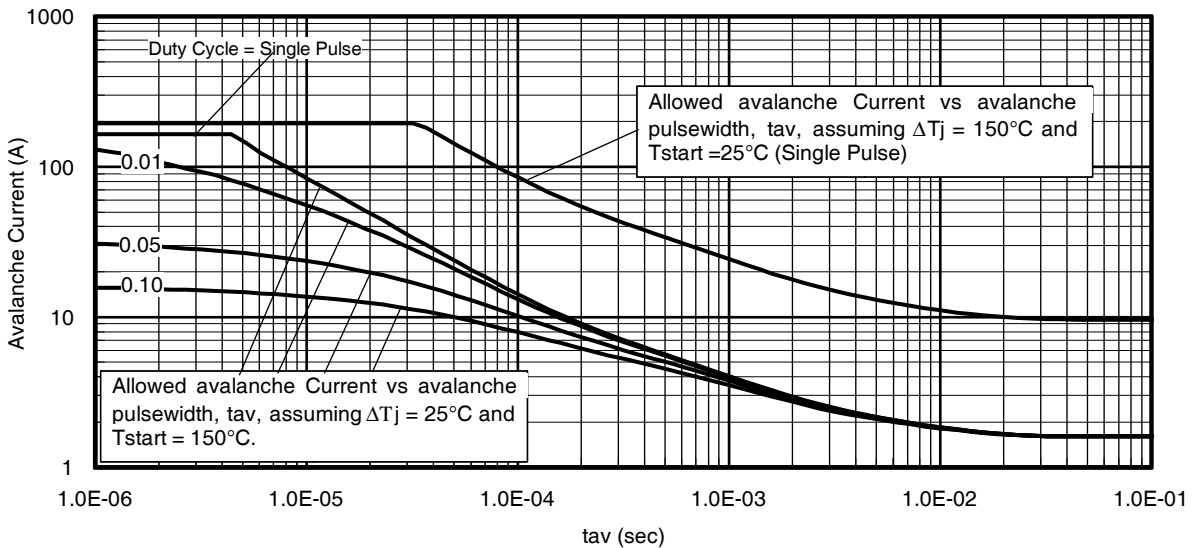

Fig 14. Typical Avalanche Current vs. Pulsewidth
- ④ $I_{SD} \leq 165A, di/dt \leq 430A/\mu s, V_{DD} \leq V_{(BR)DSS}, T_J \leq 175^\circ\text{C}$.
- ⑤ Pulse width $\leq 400\mu s$; duty cycle $\leq 2\%$.
- ⑥ $C_{oss\ eff. (TR)}$ is a fixed capacitance that gives the same charging time as C_{oss} while V_{DS} is rising from 0 to 80% V_{DSS} .
- ⑦ $C_{oss\ eff. (ER)}$ is a fixed capacitance that gives the same energy as C_{oss} while V_{DS} is rising from 0 to 80% V_{DSS} .
- ⑧ When mounted on 1" square PCB (FR-4 or G-10 Material). For recommended footprint and soldering techniques refer to application note # AN-994.
- ⑨ $R_{\theta j}$ is measured at T_J approximately 90°C .
- ⑩ Limited by T_{Jmax} , see Fig. 14, 15, 22a, 22b for typical repetitive avalanche performance.
- ⑪ $R_{\theta JC}$ value shown is at time zero.
Notes on Repetitive Avalanche Curves , Figures 14, 15:
7. ΔT = Allowable rise in junction temperature, not to exceed T_{jmax} (assumed as 25°C in Figure 14, 15).